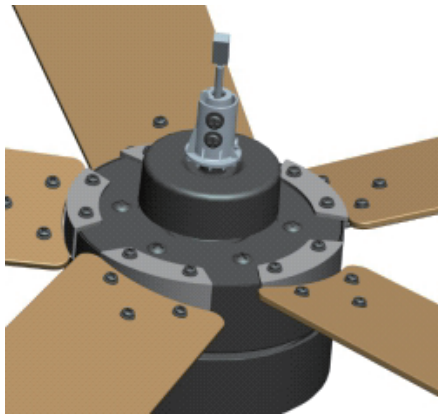

Fig 2.2
2.2 Install the other blade brackets with installed blades onto the corresponding mounting holes of the motor as shown in Fig 2.2.